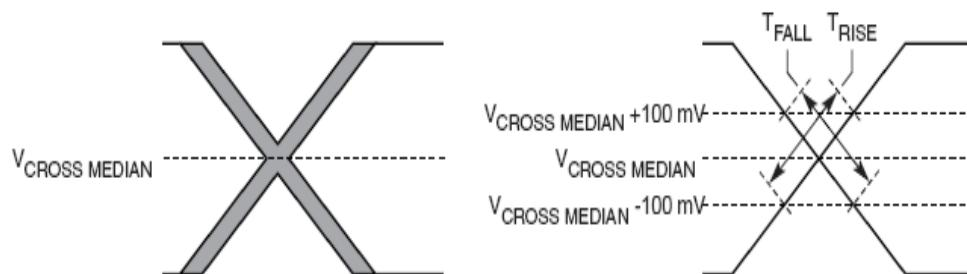

Figure 44. Single-Ended Measurement Points for Rise and Fall Time Matching
- Matching applies to rising edge for $\text{SD}_\text{REF}_\text{CLK}$ and falling edge rate for $\overline{\text{SD}_\text{REF}_\text{CLK}}$. It is measured using a 200 mV window centered on the median cross point where $\text{SD}_\text{REF}_\text{CLK}$ rising meets $\overline{\text{SD}_\text{REF}_\text{CLK}}$ falling. The median cross point is used to calculate the voltage thresholds that the oscilloscope uses for the edge rate calculations. The rise edge rate of $\text{SD}_\text{REF}_\text{CLK}$ must be compared to the fall edge rate of $\overline{\text{SD}_\text{REF}_\text{CLK}}$, the maximum allowed difference should not exceed 20% of the slowest edge rate. See Figure 44.